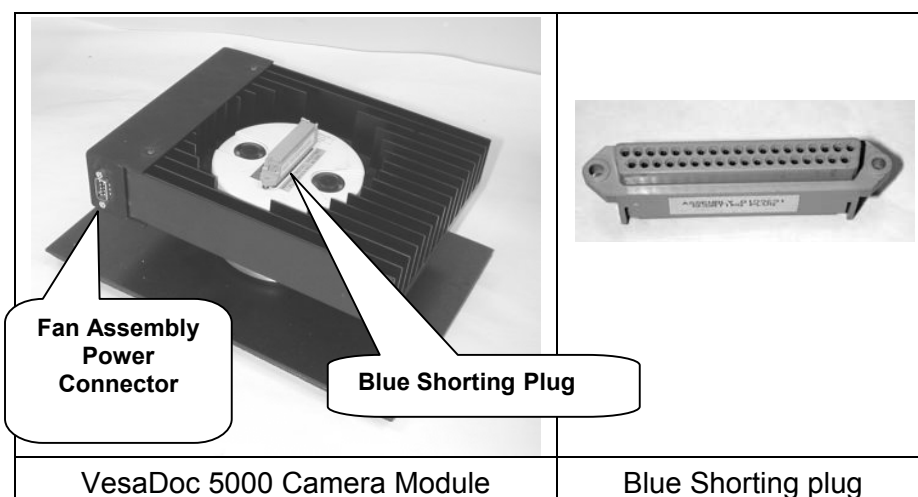

Figure 3.12
2. Remove the “BLUE” shorting plug from the camera and connect the camera control cable between the camera and the CEU. See figure 3.12